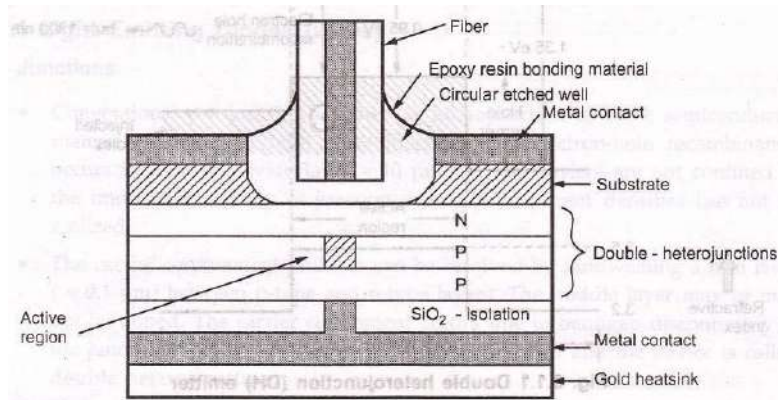

Fig. 3.1.2 Cross-section through a typical surface emitting LED
□ In surface emitting LEDs the plane of active light emitting region is oriented perpendicularly to the axis of the fiber. A DH diode is grown on an N-type substrate at the top of the diode as shown in Fig. 3.1.2. A circular well is etched through the substrate of the device. A fiber is then connected to accept the emitted